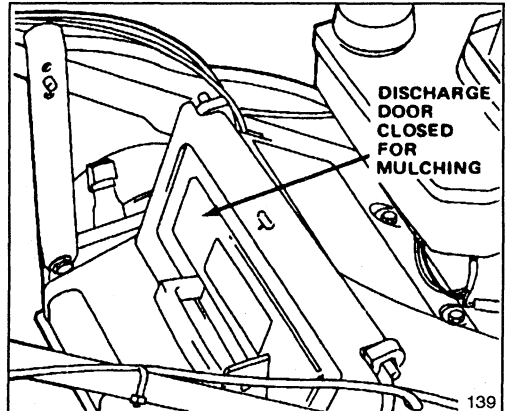

Figure 5
4. MULCHING—In summer when grass grows slower and is drier, mulch by removing the grass bag and closing the discharge door (Fig. 5).